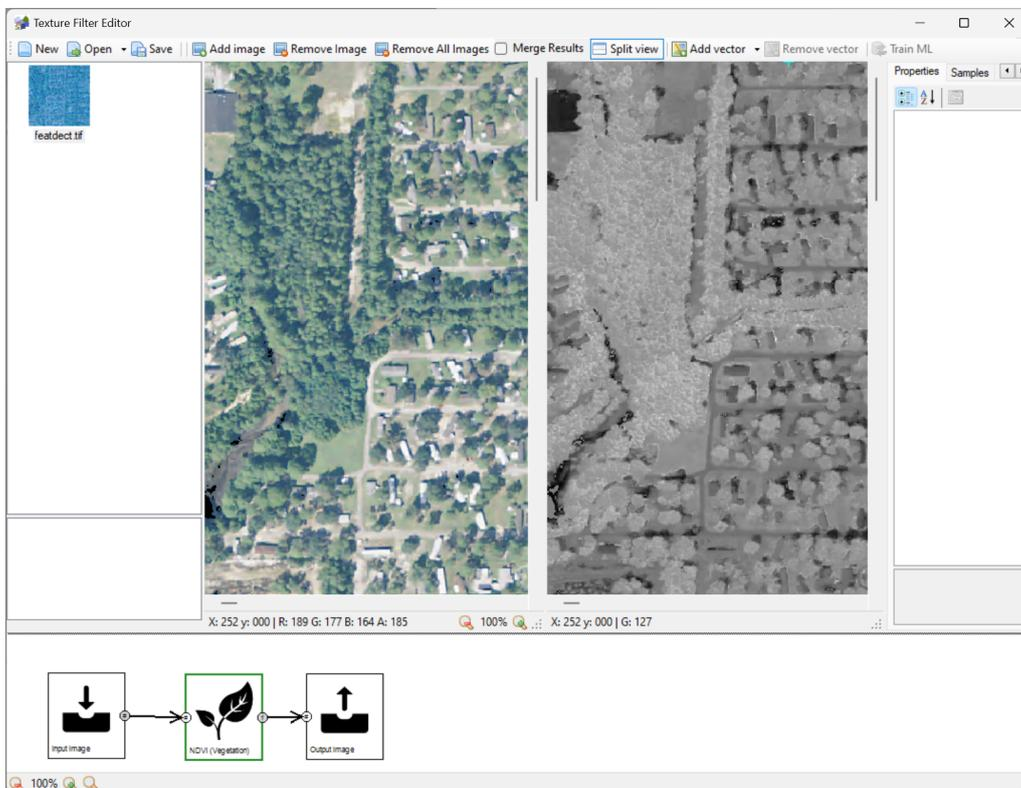

Figure 6.2: Split view showing the output of two steps at the same time
- **Split view** to select if the split view option is used. In that case the output of two steps can be shown next to each other, see Figure 6.2.